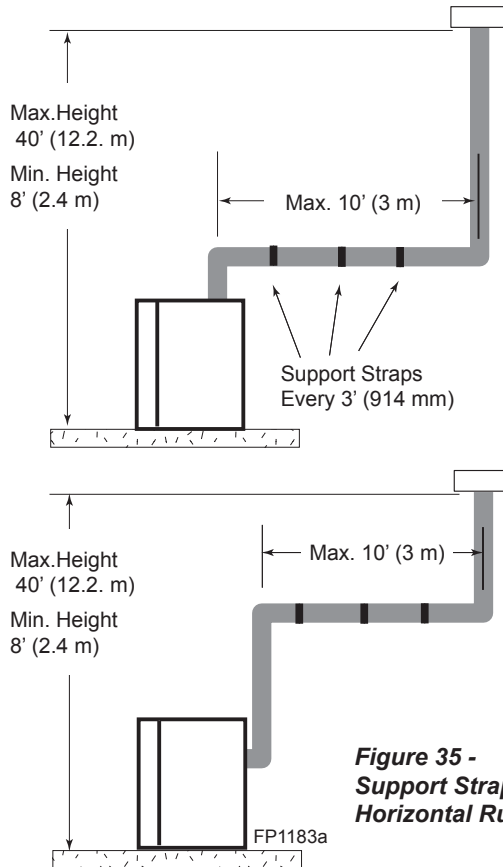

Figure 35 - Support Straps for Horizontal Runs
- Vertical installations up to 40' (12 m) in height. Up to a 10' (3 m) horizontal vent run can be installed within the vent system using a maximum of two 90° elbows. *Figure 35*
- Two sets of 45° elbow offsets may be used within the vertical sections. From 0 to a maximum of 8' (2.5 m) of vent pipe can be used between elbows. *Figure 35*